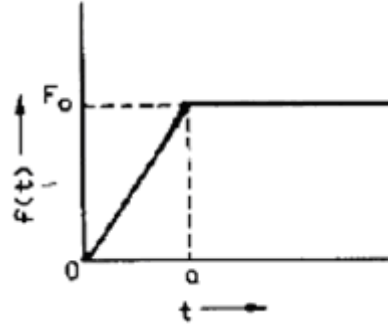

Figure 3:
5. A ramp-step forcing function shown in figure 3 acts on a spring-mass system. Obtain the shock of this forcing function. [16]